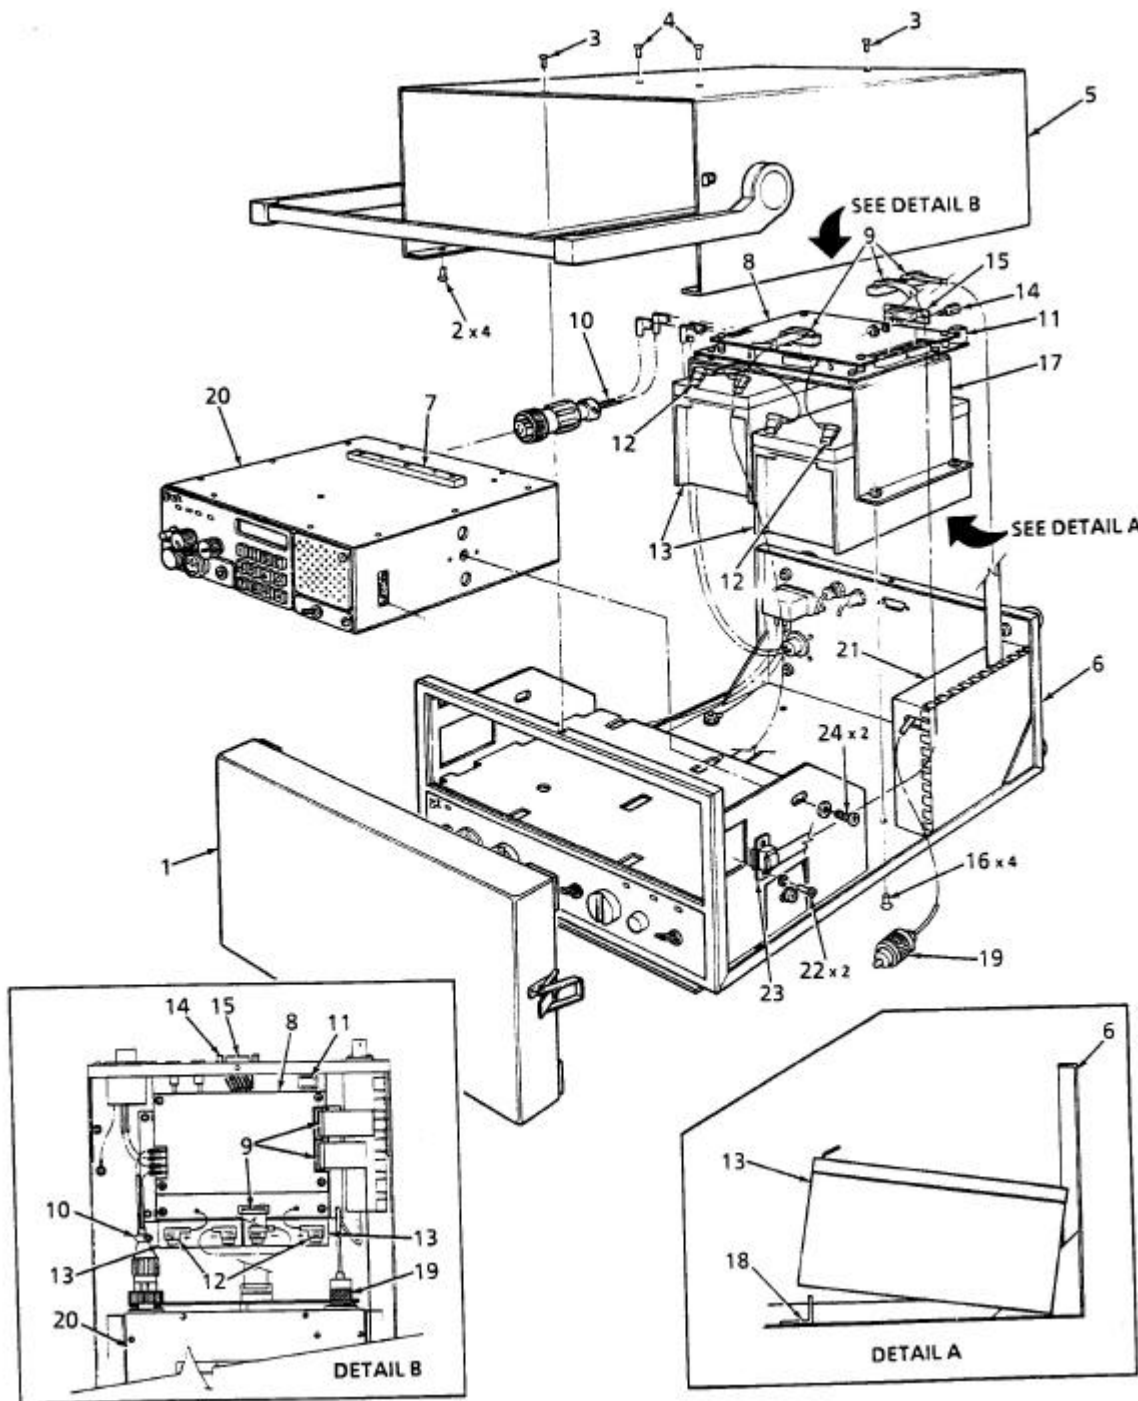

Figure 2-1 Battery Installation and Removal
2.1.1 Disassembly General (Refer Figure 2-1)
2.1.2 Assembly General (Refer to Figure 2-1)
- (1) Remove Case Assembly Cover. Refer to paragraph 2.1.1 and Figure 2-1.
- (2) Disconnect (+) and (-) Terminal Lugs (12) on Battery (13).
- (3) Disconnect UHF connector (19) and External DC Cable (10) from rear of transceiver (20). Refer to Figure 2-1.
- (4) Remove and retain 2 screws, and 2 lockwashers (22) securing Ribbon Cable (23) to D connector on right side of transceiver (20). Remove connector from socket.
- (5) Remove and retain 2 screws, and 2 washers (24) securing Transceiver to chassis (6).
- (6) Slide Transceiver to rear of chassis. Lift Transceiver clear of chassis.
- (1) Position Transceiver (20) in Case Assembly. Refer to Figure 2-1. Slide transceiver to front of Case Assembly. Ensure that Transceiver Front Panel is flush with front of Case Assembly and Transceiver mounting holes align with chassis threads. Tighten screws.
- (2) Position 2 Panhead screws and 2 washers (24) in threaded holes. Secure Transceiver to Chassis (6).
- (3) Install 2 panhead screws and 2 lockwashers (22) securing Ribbon Cable (23) to D Connector.
- (4) Connect UHF Connector (19) and External DC Cable (10) to connectors at rear of Transceiver.
- (5) Replace Case Assembly Cover (Refer to paragraph 2.1.2).